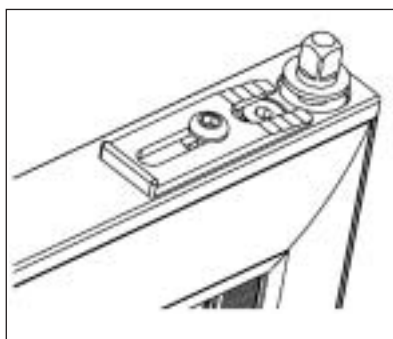
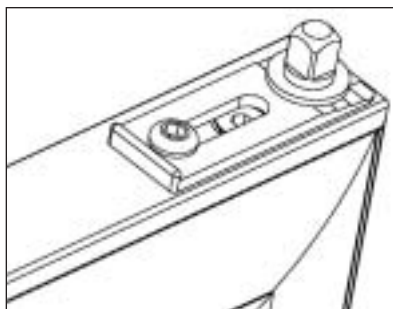

Fig. 4a
Fig. 4b
4. To mount the security plate, loosen the screw provided for the security plate (figure 4a). Move the plate forward until the hinge pin is lifted as high as possible. Tighten the screw while the pin is in this position (figure 4b).